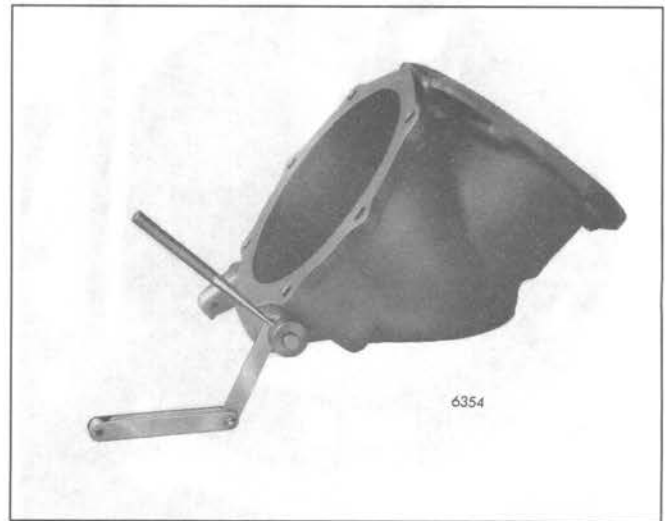

Fig. 5 – Center Punch Shaft thru Spacer Hole
3. Insert the shaft into the shutdown housing bore and install the spacer on the end of the shaft. Place a .015" feeler gage between the housing and spacer and mark the shaft with a center punch inserted into the existing hole in the spacer (Fig. 5).